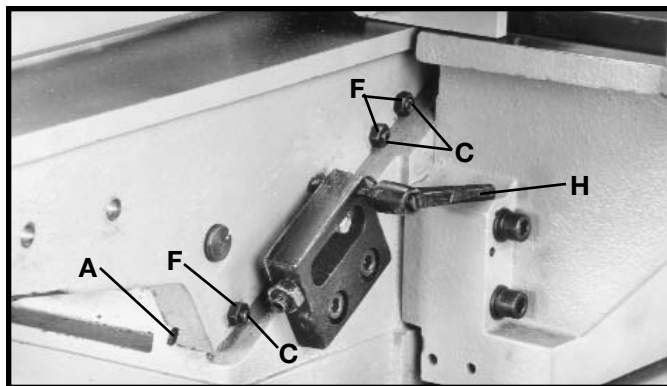
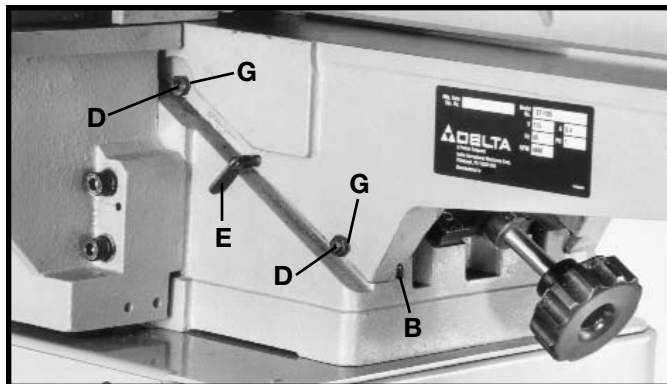

Fig. 46
Fig. 47
“Gibs” are provided to take up all play between the mating dovetail ways of the base and the infeed and outfeed tables. The “gib” for the infeed table is shown at (A) Fig. 46, and the “gib” for the outfeed table is shown at (B) Fig. 47. Proper “gib” adjustment is necessary for the correct functioning of the jointer. The “gibs” were adjusted at the factory and should require no further adjustment. If, however, it becomes necessary to adjust the “gibs”, proceed as follows:
1. To adjust the infeed or outfeed table “gibs”, loosen three locknuts (F) Fig. 46, for the infeed table or two locknuts (G) Fig. 47, for the outfeed table. For the infeed table, make sure the table locking lever (H) Fig. 46, is loose. For the outfeed table, make sure the table locking screw (E) Fig. 47, is loose.
2. Tighten or loosen three gib adjustment screws (C) Fig. 46, as necessary for the infeed table or two gib adjustment screws (D) Fig. 47, as necessary for the outfeed table; starting with the lower screw first and as you proceed to the top screw, gently raise the outboard edge of the table that is being adjusted. This will offset any tendency for the table casting to “droop or sag” and permit the gib to be adjusted to a secure fit. After the gibs have been adjusted, tighten locknuts (F) Fig. 46, (G) Fig. 47, table locking screw (E) Fig. 47, and infeed table locking lever (H) Fig. 46.